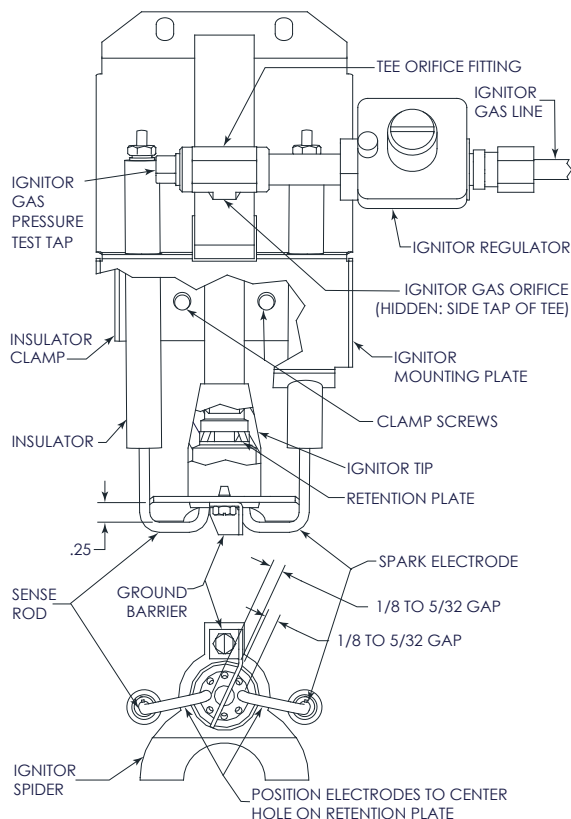

Figure 5 - Ignitor and Flame Sensor Assembly
- When the ignitor gas pressure is in the proper range (see Table 3) and the electrodes are adjusted to the dimensions shown in Figure 5, any ignition problems are usually caused by lint, dust, corrosion, cracked electrode insulators, foreign matter in the blast tube or deterioration of ignitor ports in Retention Plate.
- Ignitor trouble will be evidenced by failure of main burner ignition. It may cause frequent Electronic Control lockout. Check for dirt in the ignitor air and mixture passageways and check for obstructions in the ignitor ports. Also check electrode adjustments (see Figure 5). Replace any severely burned parts.
- Clean the Ignitor Gas Orifice in Tee Orifice Fitting (see Figure 5) and check that the orifice size is correct per Table 3.
- Check that the electrode ends are positioned and that the gap between the end of each electrode and the ground barrier is spaced per Figure 5.
- c. Check for spark between Spark Electrode and ground barrier. See Figure 5. If ignitor tip is not visible with burner mounted, but spark can be heard, continue with Step G4. If spark cannot be heard, refer to Section VIII Ignitor and Regulator Assembly for spark test.